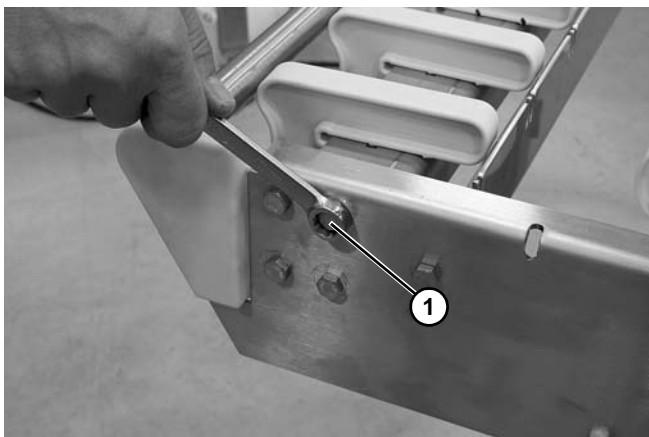

Figure 67
2. Remove the four headplate screws (Figure 67, item 1).